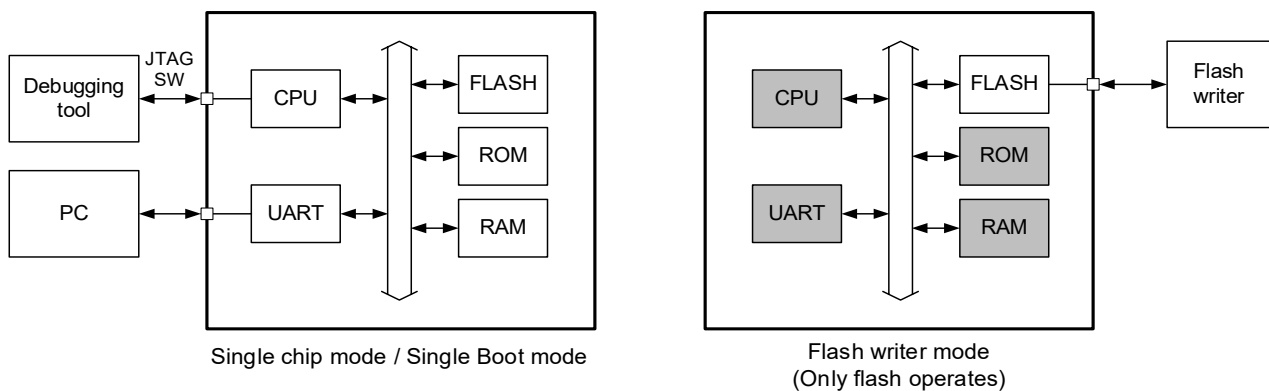

Figure 5.1 Measures for Security Risk
TPM4H Group(1) contains two measures for security risk to prevent unauthorized access. Table 5.20, Table 5.21 and Figure 5.1 show the assumed access paths and protection targets for each operation mode.